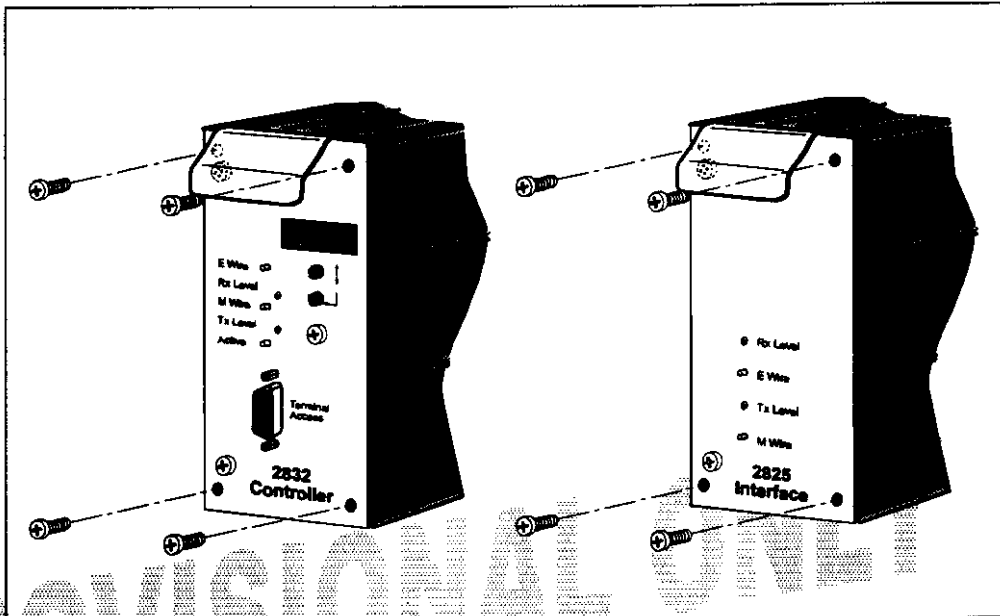

Figure 4.1: Module Face Plate Screws
2. In the module face plate, undo each of the four screws in the face plate corners (see Figure 4.1). Put the screws in a safe place for refitting the PCB.
3. Using the four screws kept from the removal of the PCB, insert and tighten a screw through each of the holes in the corners of the module face plate (see Figure 4.1).
3. In the module face plate, undo each of the four screws in the face plate corners (see Figure 4.1). Put the screws in a safe place for refitting the PCB.